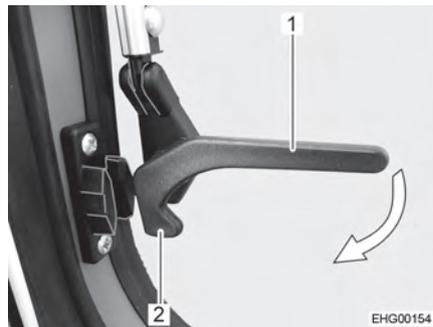

Fig. 41 Catch lever, on the side ("open" position)
- Turn the catch levers on the side (Fig. 41,1) a quarter turn towards the window frame until the locking catch (Fig. 41,2) engages.